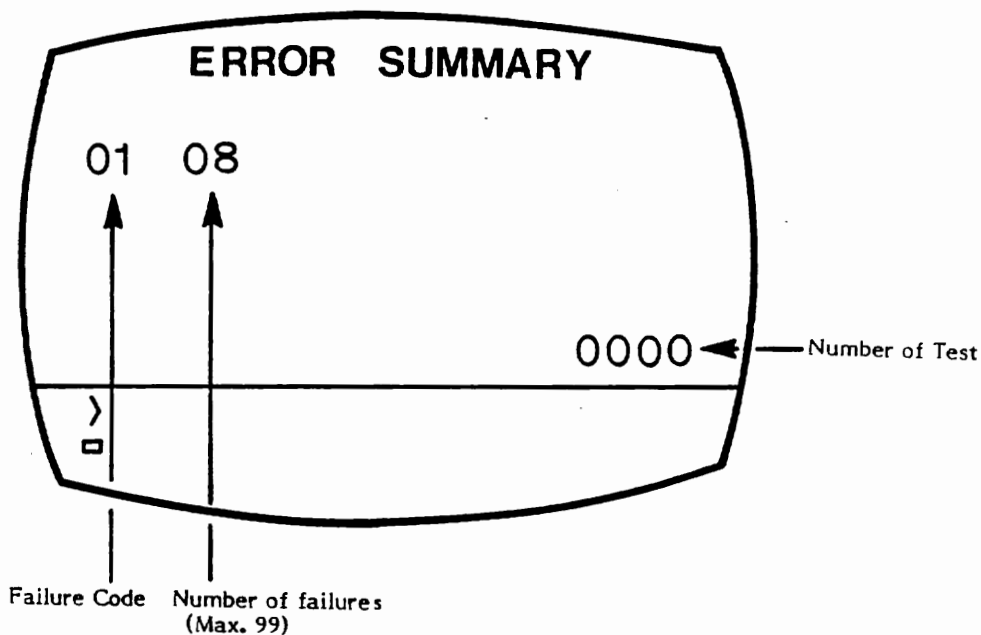

Figure 3-5. Error Summary.
Errors during the RAM, PORT, and verify OS ROM Test are displayed on the matrix shown in Figure 3-5.
- Format: If error code 30 appears on the Error Summary (Figure 3-5) the OS ROM chip is defective. Replace the defective chip and restart the test.
- Format: The test is done internally with failures appearing on the Error Summary (Figure 3-5).